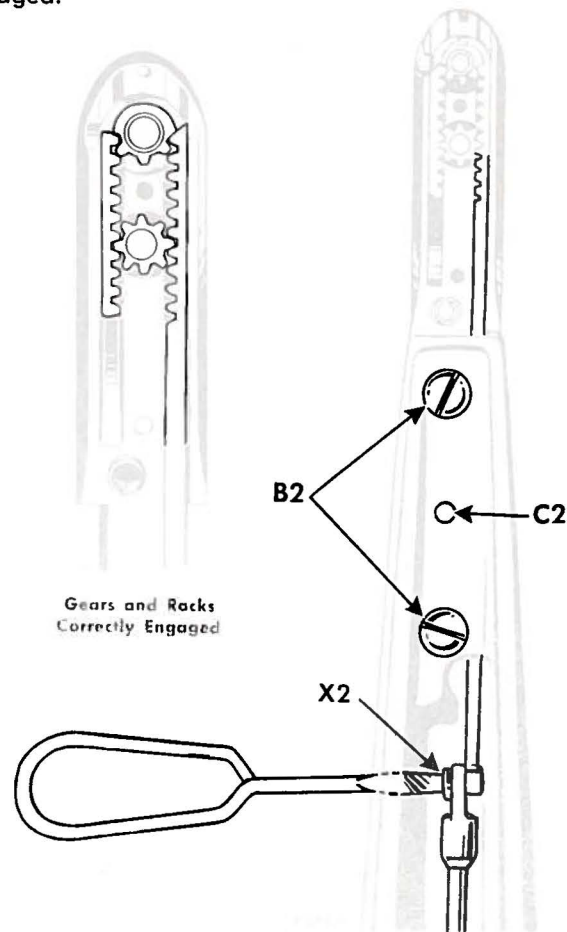

Fig. 36. Removing Rack Box
To take out the shuttle carrier, remove the small set screw in the shuttle driving pinion **W** by inserting a small screwdriver through the groove at the side of the rack box as shown in Fig. 35. The shuttle carrier can then be pressed through the pinion. To remove the long rack **Y**, insert a screwdriver through hole as shown in Fig. 36 and take out the screw **X2**. Before proceeding to withdraw the rack, remove the pinion **Z**, Fig. 35 then grip the rack and draw it straight toward the pulley end of the machine. The short rack **X** and shuttle driving pinion **W** can be removed without difficulty. When replacing any one or re-assembling the whole of these parts, care must be taken to see that the gears and racks are correctly engaged, as shown in Fig. 36.
If for any reason it is necessary to remove the rack box from the machine, proceed as follows: Remove the machine from its treadle stand or power bench. Turn the hand wheel until the connecting rod hinge screw **X2**, Fig. 36 is opposite the hole in the lower arm. Then tilt the machine back upon its machine pulley end, the underside facing the adjuster. Insert a screwdriver through the hole as shown in Fig. 36, and remove the screw **X2**. Slightly loosen the two screws **B2** by giving them a half turn with a screwdriver. Then drive out the taper pin **C2**, using a 3/16" punch and hammer, and take out the two screws **B2**. The machine should now be replaced on its feet and the horn will then come away if pulled in a horizontal direction.
When re-assembling the box to the machine, be sure that the taper pin **C2** is driven in as far as it will go before finally tightening the two screws **B2**, Fig. 36.
**NOTE:** Cover plate is shown removed in Fig. 36 to illustrate how the gears and racks should be correctly engaged.